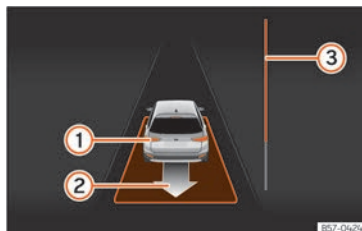

Fig. 190 On the instrument panel display: exit a parallel parking space.
The progress bar »» Fig. 190 ③ indicates the distance to cover »» page 273.